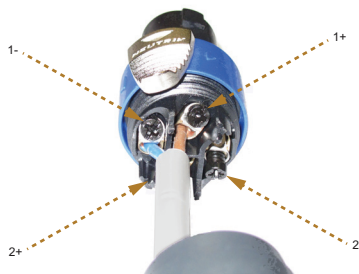

Figure 6.5 Open Female DB9 Connector
- a. Attach the wire on the positive contact of the Phoenix connector to the +1 contact on the Neutrik NL4FX connector (**Figure 6.5**).
- b. Attach the wire on the ground of the Phoenix connector to the -1 contact on the Neutrik NL4FX connector (**Figure 6.5**).